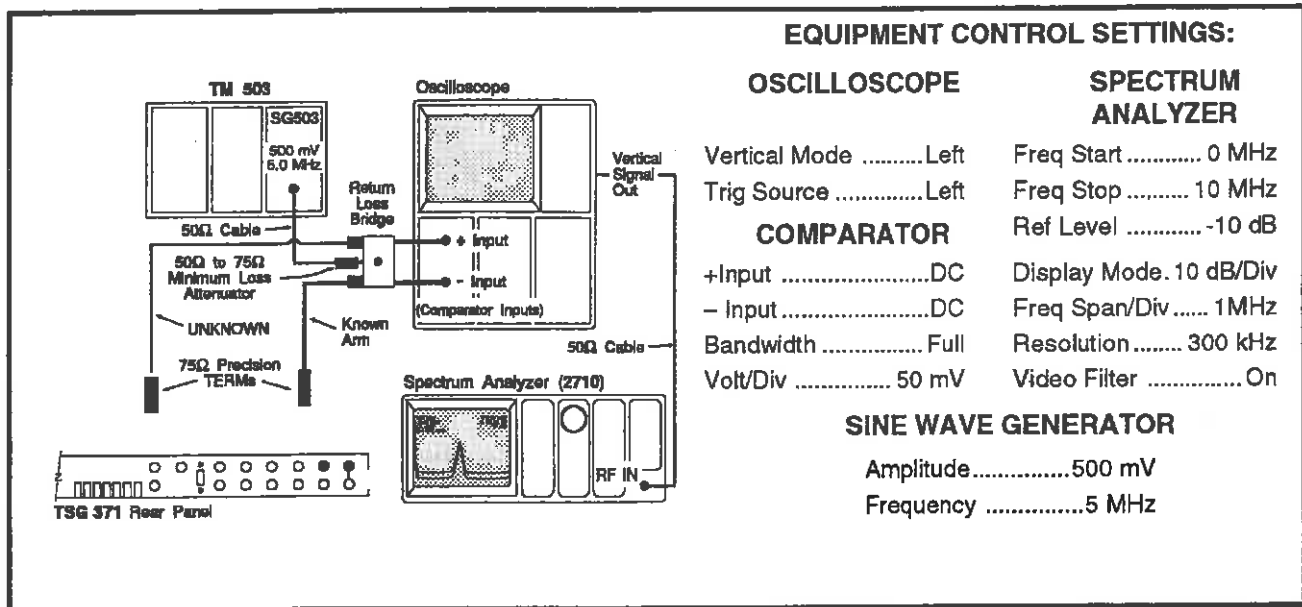

Fig. 5-13 Setup for Return Loss Measurements.
- a. Connect the equipment as shown in Fig. 5-13.